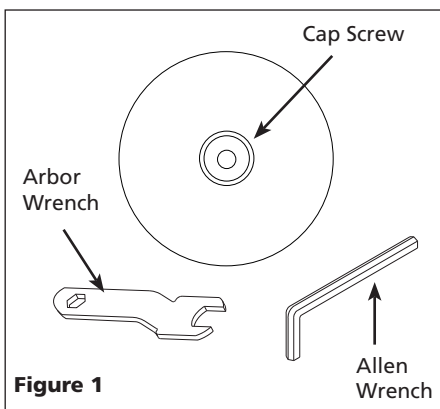

Figure 1
1. Remove the cap screw holding the cut-off wheel. Remove the cut-off wheel (See Figure 1). Arbor wrench is included with some models.